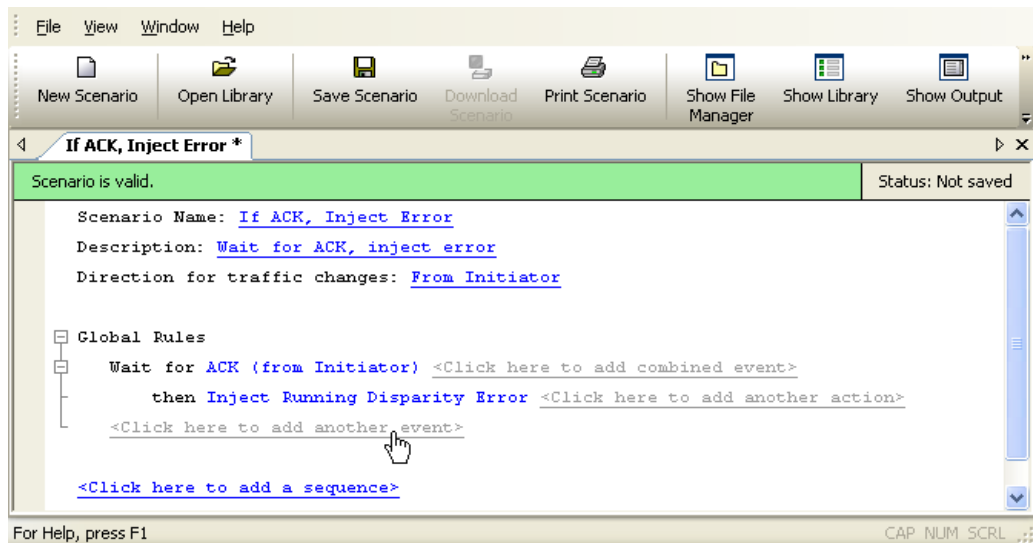

Figure 69 Example 6: Entering the Second Event
Step 3 Click on the prompt to **add another event** (keep in mind this is not a combined event) (Figure 69).